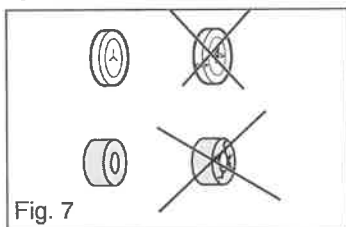

Fig. 7
- Check the membrane valve (1.13), sealing cap (1.11) and O-rings (x) (not shown) for proper condition and replace if necessary (fig. 7).
- ◇ Check that the PANOVUE Operating Telescope (1) can be rotated in the outer sheath (2) of the resectoscope.